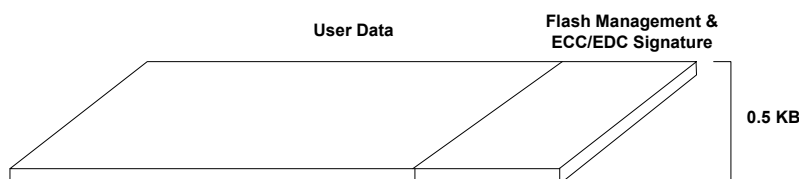

Figure 4: Page Structure
- **Page** – Each page contains 512 bytes of user data and a 16-byte extra area that is used to store flash management and EDC/ECC signature data, as shown in Figure 4. A page is the minimal unit for read/write operations.
Mobile DiskOnChip Plus 32MB devices are designed with a dual-bank interleave architecture, consisting of two banks of 16MB NAND flash. The interleave architecture allows 16-bit internal flash access instead of the standard 8-bit flash access, thereby doubling performance for read, write and erase operations. The interleave architecture consists of 1024 dual blocks organized in 32 dual pages, for a total capacity of 32MB, as shown in Figure 4.